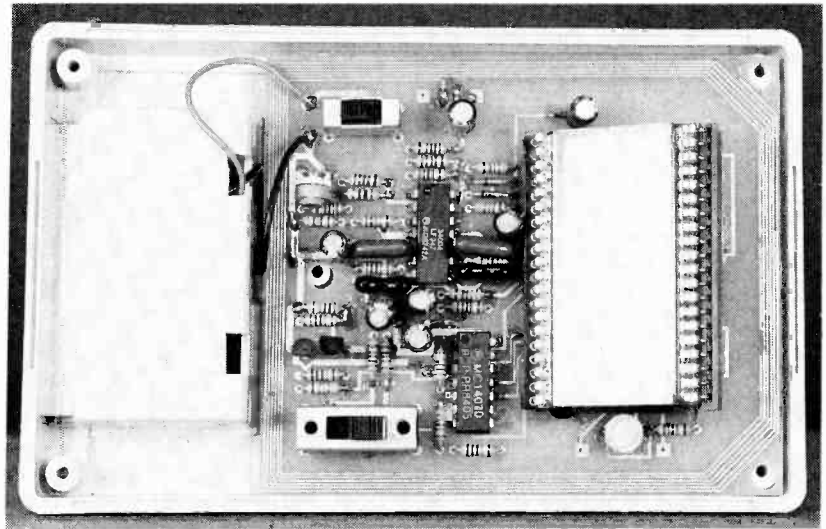
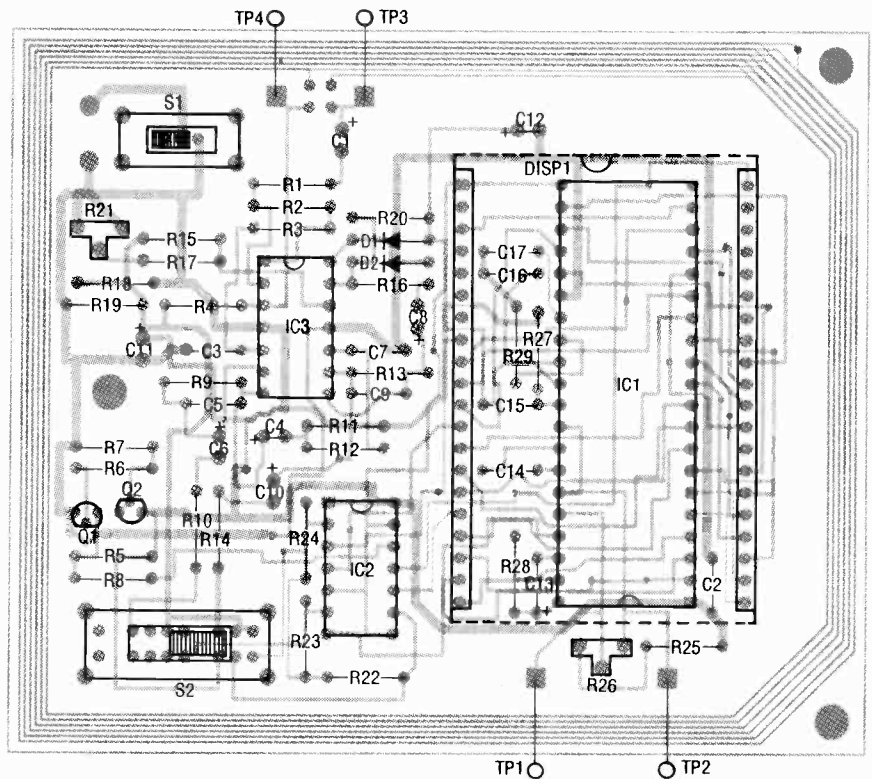

FIG. 4—THIS IS AN INTERNAL VIEW of the magnetic field meter. Assembly is easy, just install all components below the LCD first.
FIG. 5—PARTS PLACEMENT DIAGRAM.
The finished unit shown in Fig. 4 uses a double-sided PC board, which is available from the source mentioned in the parts list. We also show the component side and solder side of the PC board if you choose to make it yourself. You can, however, build the circuit on a perforated construction board if you like, but remember to include the 18-turn remote sensing coil, L1, as indicated in the Parts List. Mount all parts below the LCD display first. It's easier to fix assembly problems if a socket is used with the LCD. Install all parts as shown in Fig. 5 paying attention to component valves and capacitor polar-
Select the dual-channel mode, couple channel B to ground, and align the trace so it lies on the 10% graticule marking. Select the time-measurement mode, and set the "begin" and "end" knobs so that the intensified trace section is as shown in Fig. 5. The digital display should show between 11 and 14 microseconds. (The display in Fig. 5 shows 12.83 microseconds.)
Figure 4 shows the parts layout. The position of all polarized components (especially the Hall sensors) must be followed exactly as shown. The operation of the project depends upon the Hall generators being placed in opposite directions and exactly parallel as indicated in Fig. 4. Note that the orientation of the sensors is determined by the marked face of the device, with pin 1 being on the left side when looking at the markings. The sensors must be positioned so that they are aligned square with the rectangular shape of the printed circuit board. That way the compass direction will be accurate when the project is assembled into the enclosure. (Use the "north" indication of Fig. 4 to determine the relationship between the PC board and compass scale when final assembly is done.)
**FIG. 4—PARTS PLACEMENT DIAGRAM.** The Hall generators must be placed in opposite directions and exactly parallel as shown. Pin 1 of the Hall sensors is on the left side when looking at the markings on the face of the device.